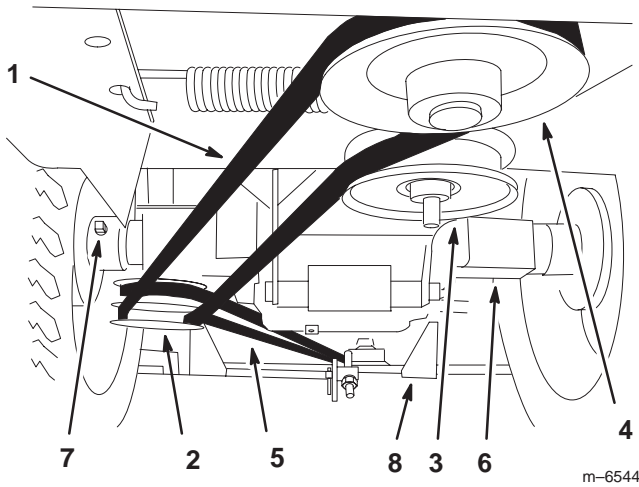

Figure 12
1. Route the collector belt around the collector pulley and idler pulley (Figures 12 and 13).
2. Route the collector belt onto the bottom pulley of the double pulley mounted on the tractor's left side axle (Fig. 12).